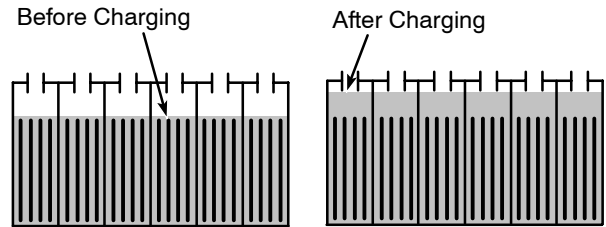

FIG. 63
1. Check battery fluid level frequently to prevent battery damage. The fluid should be at the level shown (Figure 63). Add distilled water if low. **DO NOT OVERFILL**, the fluid may expand and overflow when charging.